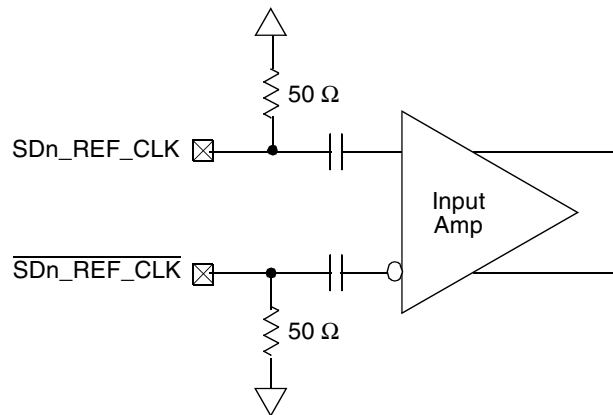

Figure 58. Receiver of SerDes Reference Clocks
Figure 58 shows a receiver reference diagram of the SerDes reference clocks.
- The SDn_REF_CLK and $\overline{SDn_REF_CLK}$ are internally AC-coupled differential inputs as shown in Figure 58. Each differential clock input (SDn_REF_CLK or $\overline{SDn_REF_CLK}$) has a 50-Ω termination to SGND (xcovss) followed by on-chip AC-coupling.